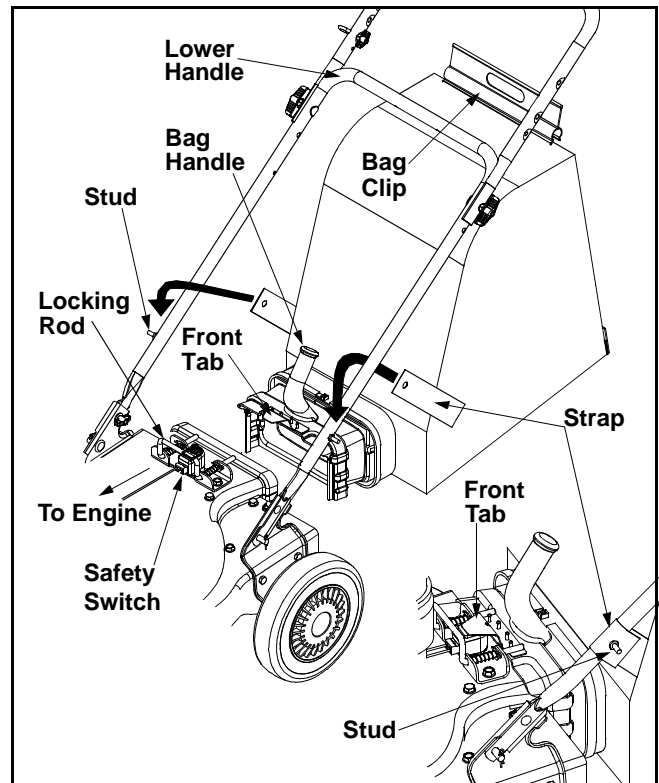

Figure 3
- Grasp bag handle with one hand and pull locking rod on mounting bracket with other hand toward engine. See Figure 3.
- Remove bag from rim of the discharge opening. Refer to Figure 3.